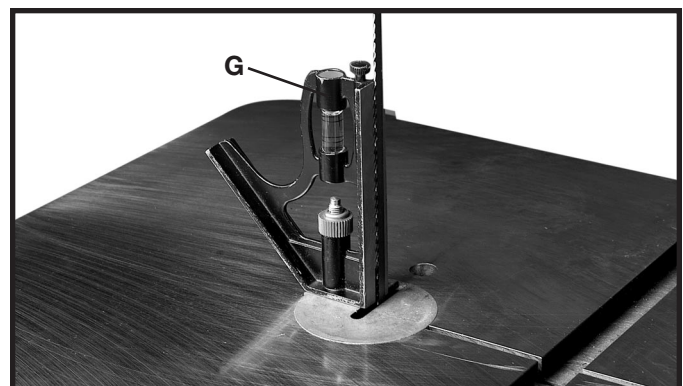

Fig. 46
3. Place a square (G) Fig. 46, on the table and set blade square to table.